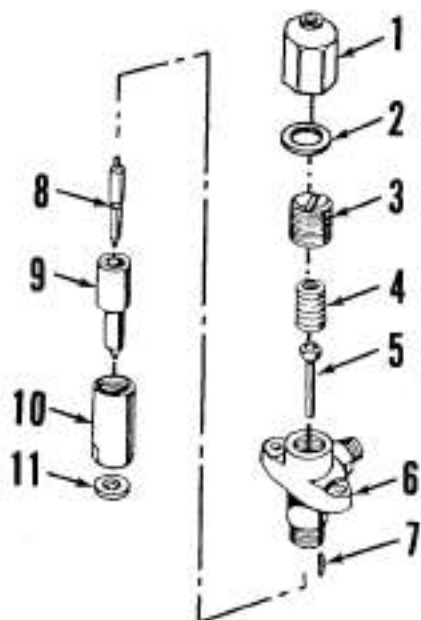

Fig. 90—Exploded view of typical C.A.V. injector nozzle and holder assembly.
If opening pressure is not as specified, remove the injector cap nut (1—Fig. 90) and turn adjusting screw (3) as required to obtain recommended pressure.
**NOTE:** When adjusting a new injector or overhauled injector with new pressure spring (4), set pressure to the recommended higher pressure to allow for initial pressure loss due to spring taking a set.
Wipe all dirt and loose carbon from exterior of nozzle and holder assembly. It is recommended that injectors be soaked in a suitable carbon cleaning solution for several hours, or overnight if possible, prior to disassembly; otherwise, nozzle valve body (9—Fig. 90) may turn with nozzle nut (10) shearing the locating dowel pins (7).
All polished surfaces should be relatively bright without scratches or dull patches. Nozzle valve (8—Fig. 90) must slide freely in valve body (9). If valve sticks, reclean or renew valve assembly as necessary.